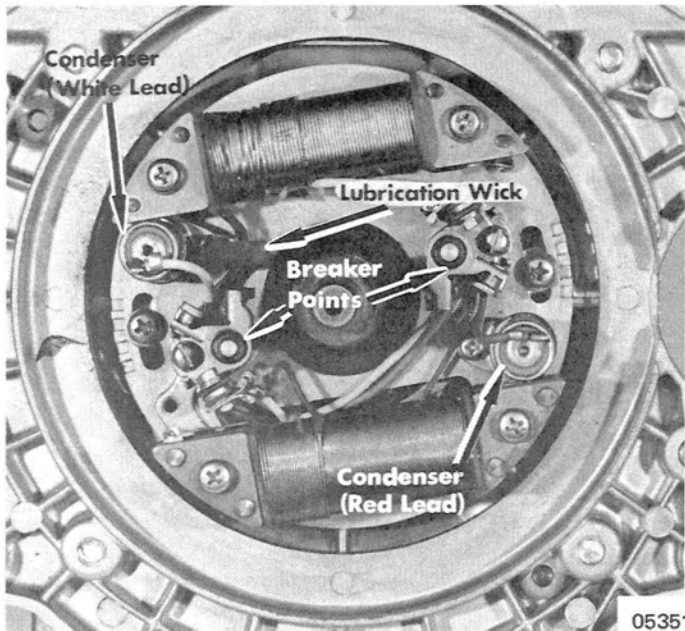

Figure 4. Breaker Point and Condenser Location
3. Position new breaker points, condensers and lubrication wick on stator plate and secure with attaching screws. (Figure 4)